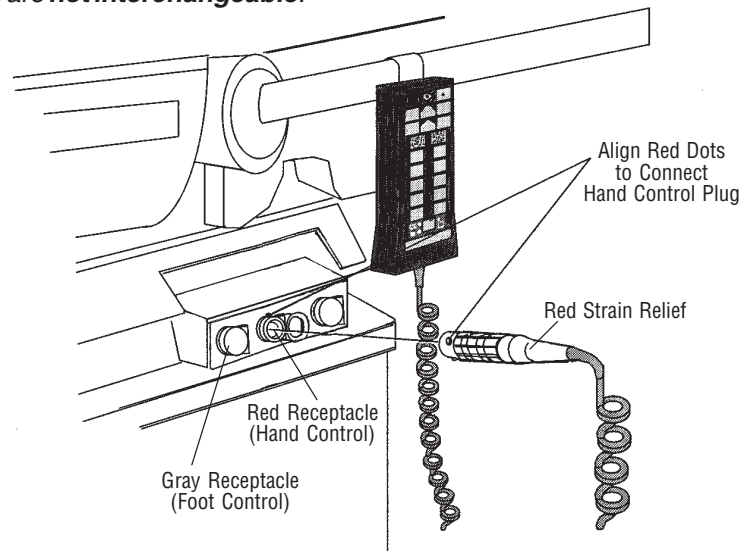

Figure 3-2. Hand Control Connection for Standard 3085 SP Table
Align the red dot on the hand control cord red plug with the red dot of the table red receptacle and push into connected position (see Figure 3-2).
3. Hang hand control on table side rail or end rail (see Figure 3-2) and route control cord away from possible pinch points.